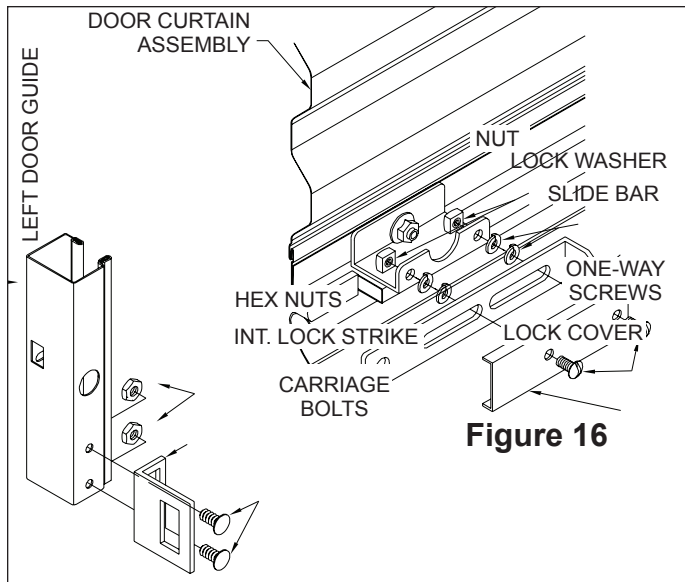

Figure 16
12.2 Assemble components as shown in Figure 16, noting that two (2) high collar lock washers are placed over each 1/4" one-way screw to allow the lock bar to slide freely.